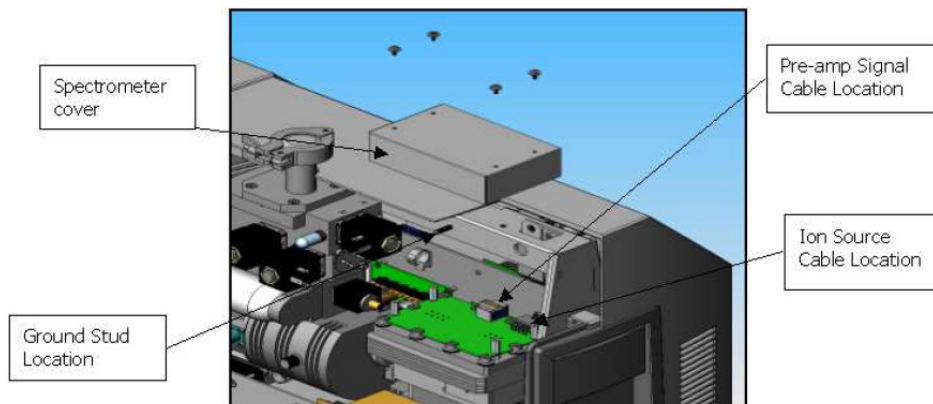

Figure 3-3. Cable locations
6. Disconnect the spectrometer ground cable, the preamp signal cable and the ion source cable from the spectrometer (Figure 3-3).